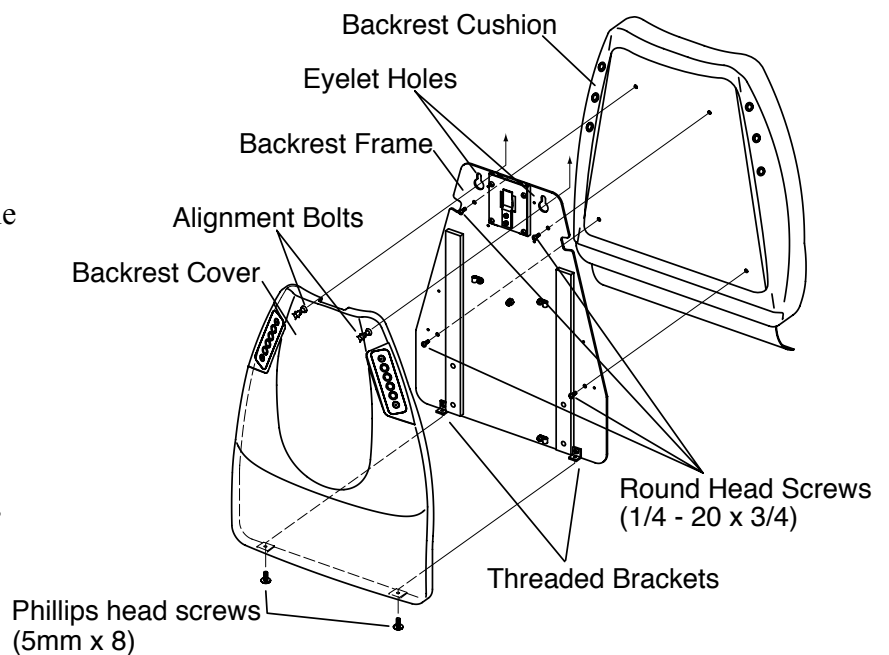

Figure 6b
- 5) Remove 2(5mm x 8) phillips head screws that secure the plastic backrest cover to the metal backrest frame (Figure 6b). Using a 10mm hex key wrench, attach backrest frame to seat back support using 4(10mm x25) socket head cap screws.(See Figure 5 a.)
d) Secure backrest cover to backrest frame by using 2 (5mm x 8) phillips head screws, as shown in figure 6b.